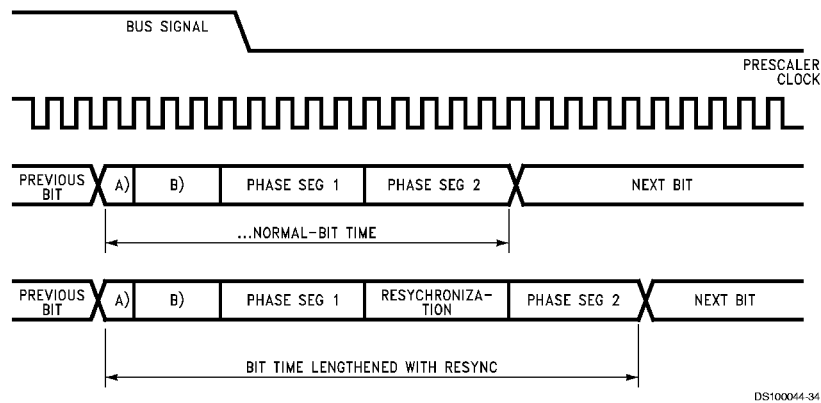

FIGURE 29. Resynchronization 1
**Soft synchronization** is used to lengthen or shorten the bit time while a data or remote frame is received. Whenever a falling edge is detected in the propagation segment or in phase segment 1, the segment is lengthened by a specific value, the resynchronization jump width (see Figure 29).
If a falling edge lies in the phase segment 2 (as shown in Figure 29) it is shortened by the resynchronization jump width. Only one resynchronization is allowed during one bit time. The sample point lies between the two phase segments and is the point where the received data is supposed to be valid. The transmission point lies at the end of phase segment 2 to start a new bit time with the synchronization segment.